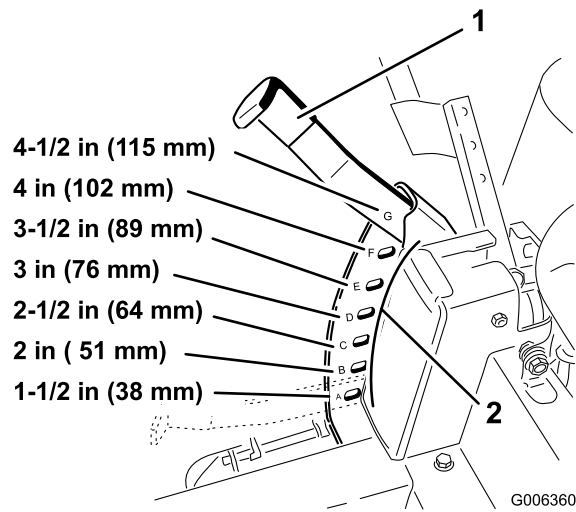

Figure 14
1. Raise the height-of-cut lever to the transport position, cutting height position **G** (also the 4-1/2 inch [115 mm]) (Figure 14).